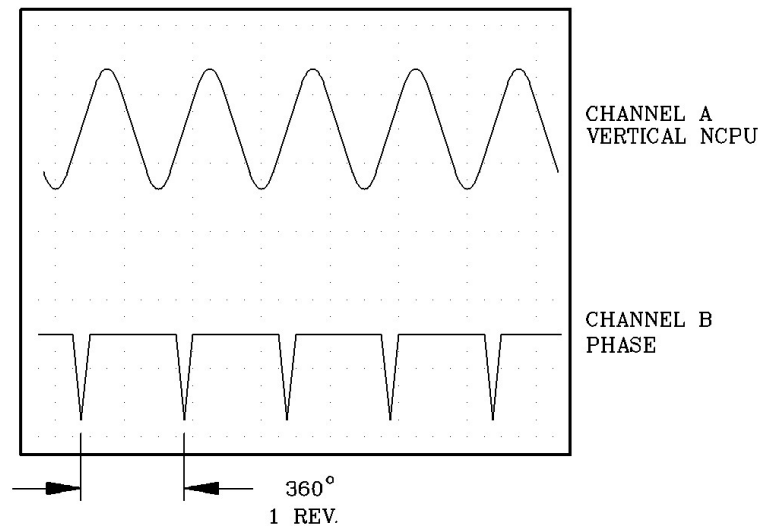

Fig. 3.2
7. Observe the oscilloscope display. It should have two signals displayed; one representing the shaft vibration and another representing the phase signal. It should resemble Figure 3.2.